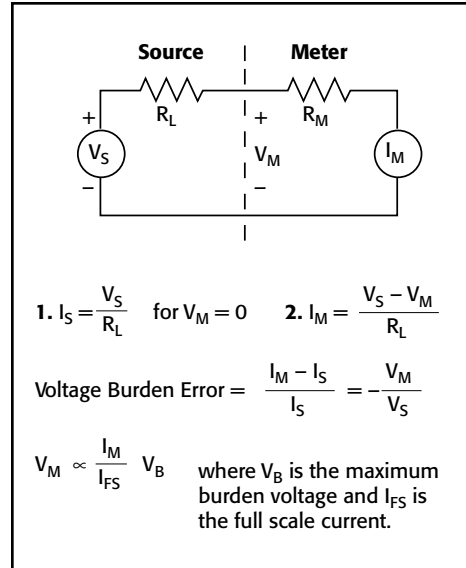

Figure 4: Voltage Burden Error
**Voltage burden error** (**Figure 4**) is the difference between the expected current through the load ( $R_L$ ) and the measured current ( $I_M$ ) caused by the finite voltage drop of the measuring instrument.